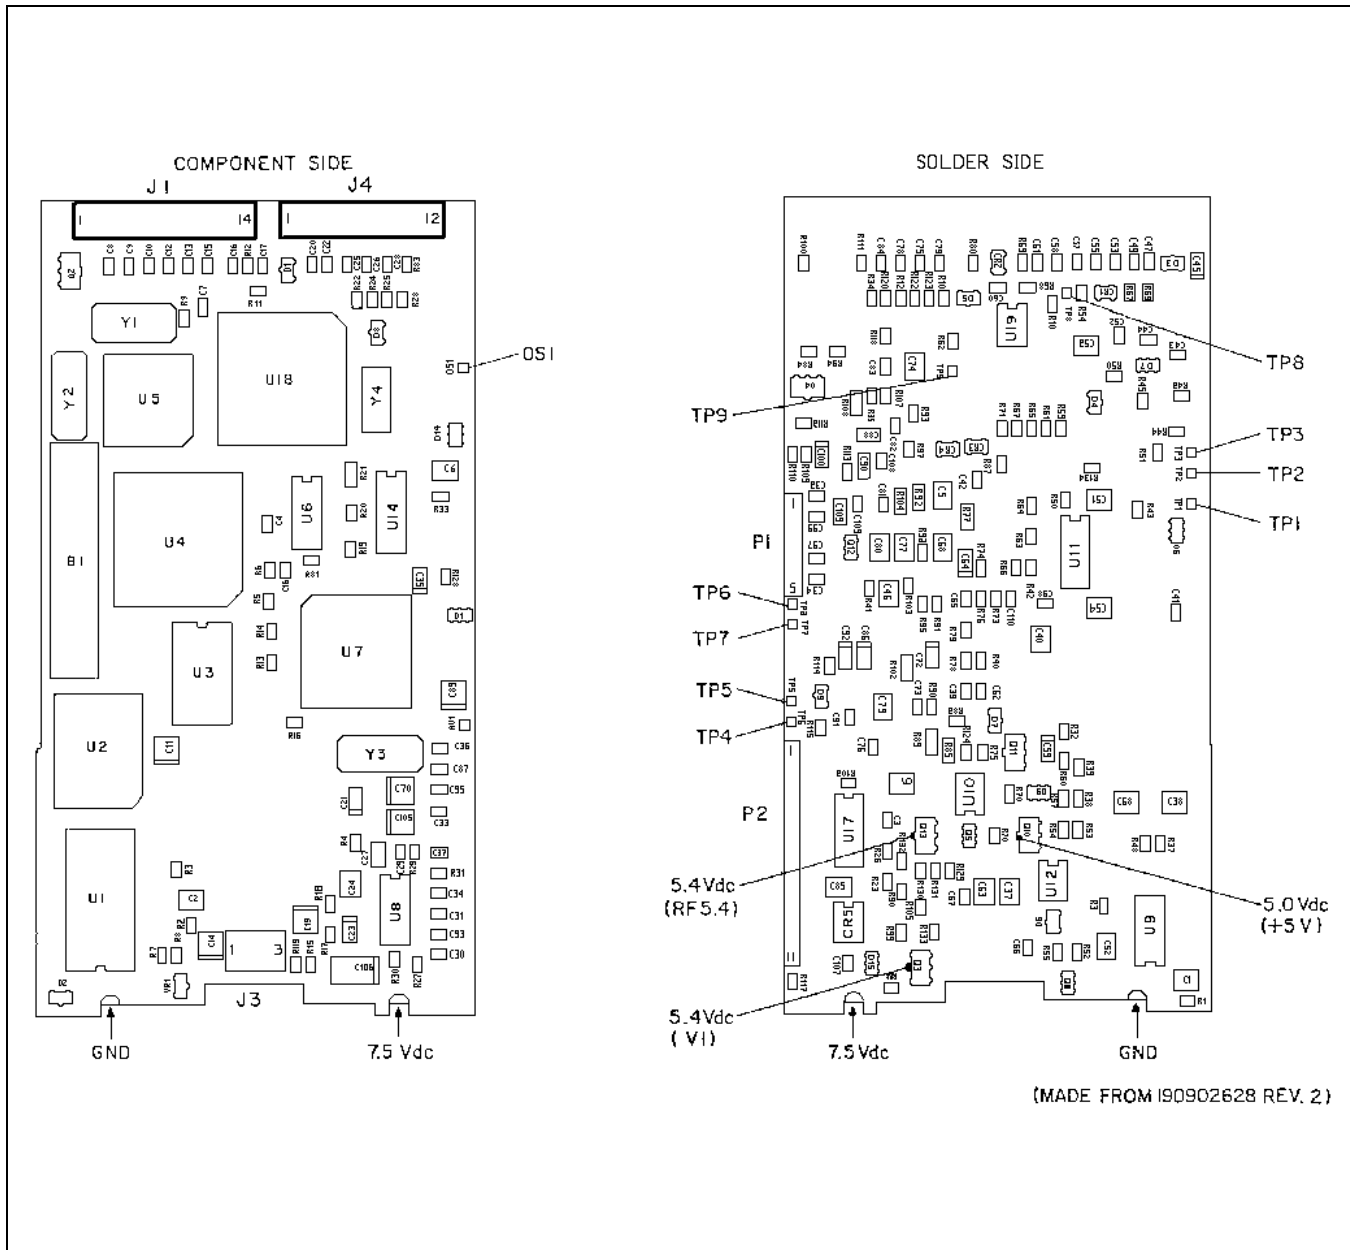

Figure 13 - Control Board Test Point Locations
2. Using clip leads, apply power (7.0 - 9.0 Vdc) to the Control Board at the bottom mounting holes. OBSERVE POLARITY. See Figure 13.